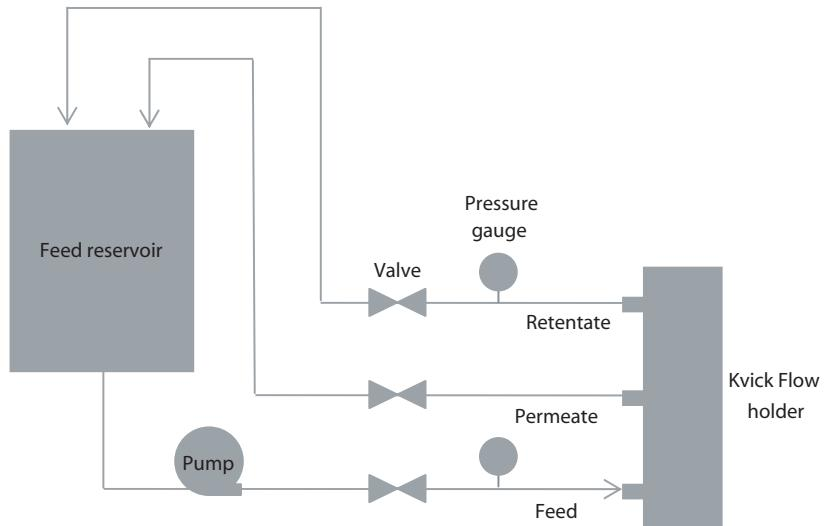

Fig 15. Typical configuration for conditioning the system with buffer
- 3 Attach a line to the feed pump drain valve and connect the other end aseptically to your collection vessel (Fig 15).